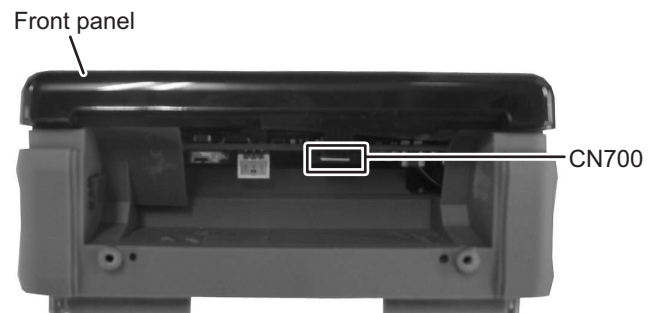

Fig.5
- (2) Disconnect the flexible wire of the touch panel from the connector **CN700** of the main board. (See Fig.5)
- (3) Take out the front panel, the caution label and the touch panel. (See Fig.5)